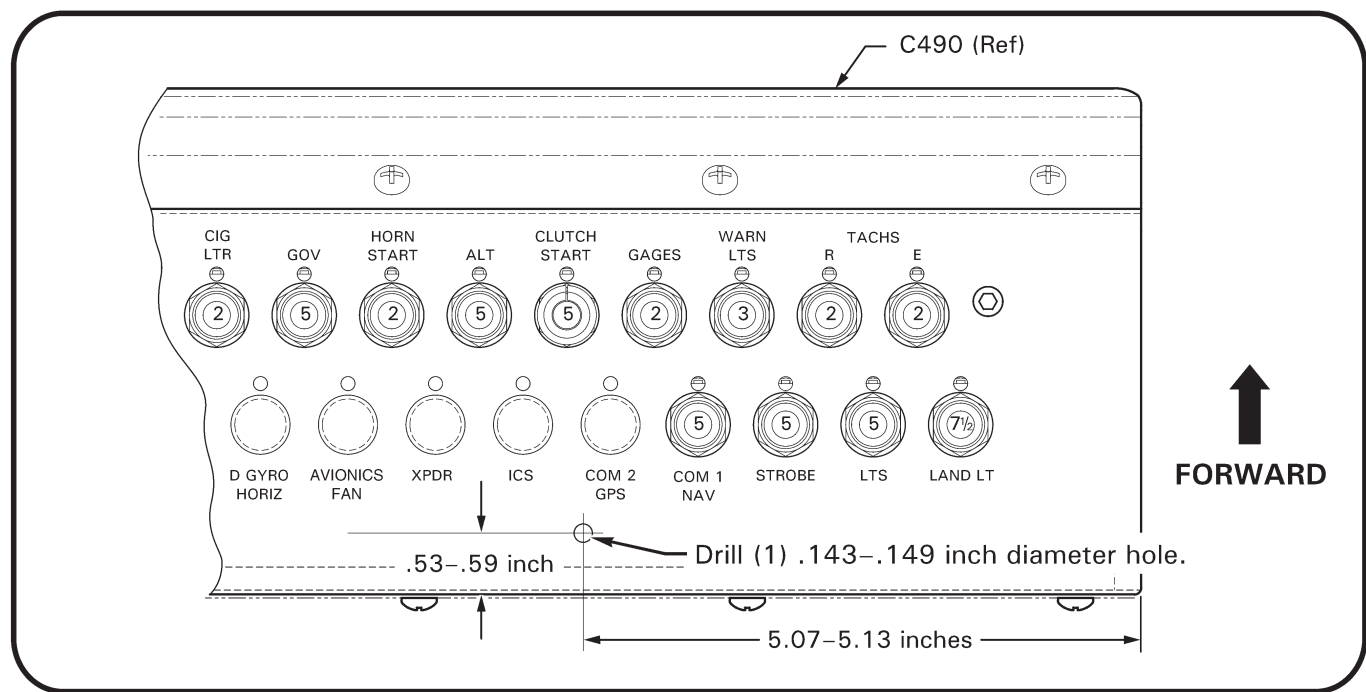

FIGURE 4A Locating screw installation hole
9. Refer to Figures 4A & 4B. Locate and drill (1) 0.143–0.149 inch diameter hole in C490 circuit breaker panel assembly using drill stop. Deburr hole and clean up debris. Position KI-275-ALL fuse block assembly on panel assembly with wire (-3078) outboard, and install using (1) MS35206-227 screw, (1) NAS1149FN616P washer under screw head, and (1) MS21042L06 nut. Select available location on main bus bar and trim wire (-3078) to length. Strip wire and install B260-2 ring terminal. Verify security of ring terminal. Remove existing installation screw and lockwasher from selected location; discard screw and retain lockwasher. Secure ring terminal to bus bar using new MS35206-226 screw and retained lockwasher.